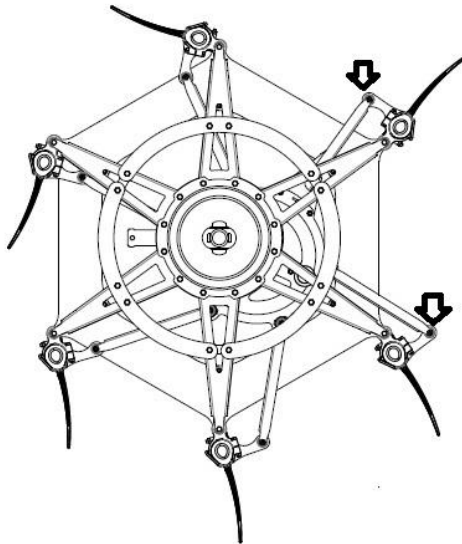

Figure 278
12. The link from the cam to the reel bat control arm Figure 278 must be installed properly. If the hardware is not install properly control arm link wear is possible.